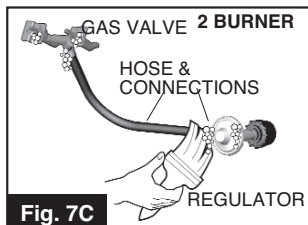
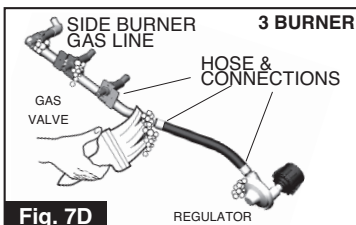

Fig. 7C
Fig. 7D
- All hose connections (see Figure 7C) including side burner tubing, if equipped (see Figure 7D)
- All valve connections (see Figure 7C & D)